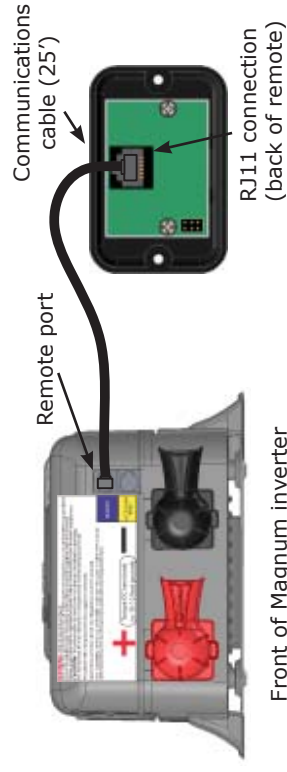

Figure 4, Communication Cable Connections
One end of the remote cable is connected to the RJ11 jack on the rear of the MM-R/MM-RC remote panel, and the other end is connected to the Remote port (blue) on the Magnum inverter (see Figure 4).
- Connect the communications cable to the remote (see Figure 4).